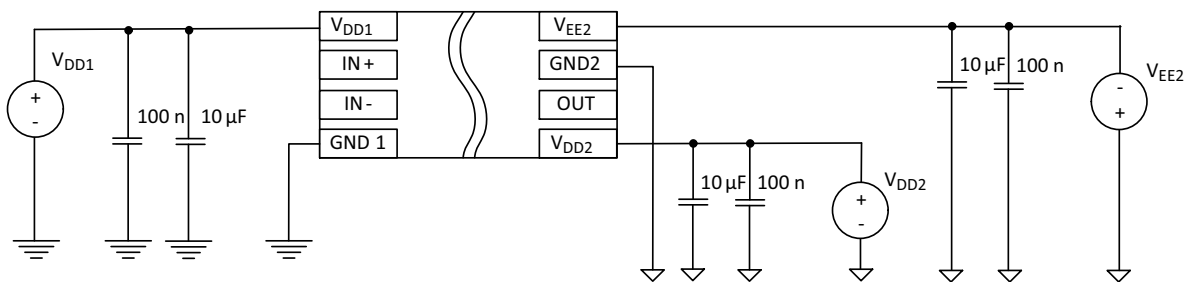

Figure 27. Bipolar Power Supply NCD57080B
- In bipolar power supply the driver is typically supplied with a positive voltage of  $15\text{ V}$  at  $V_{DD2}$  and negative voltage  $-5\text{ V}$  at  $V_{EE2}$  (Figure 27). Negative power supply prevents a dynamic turn on through the internal IGBT input capacitance